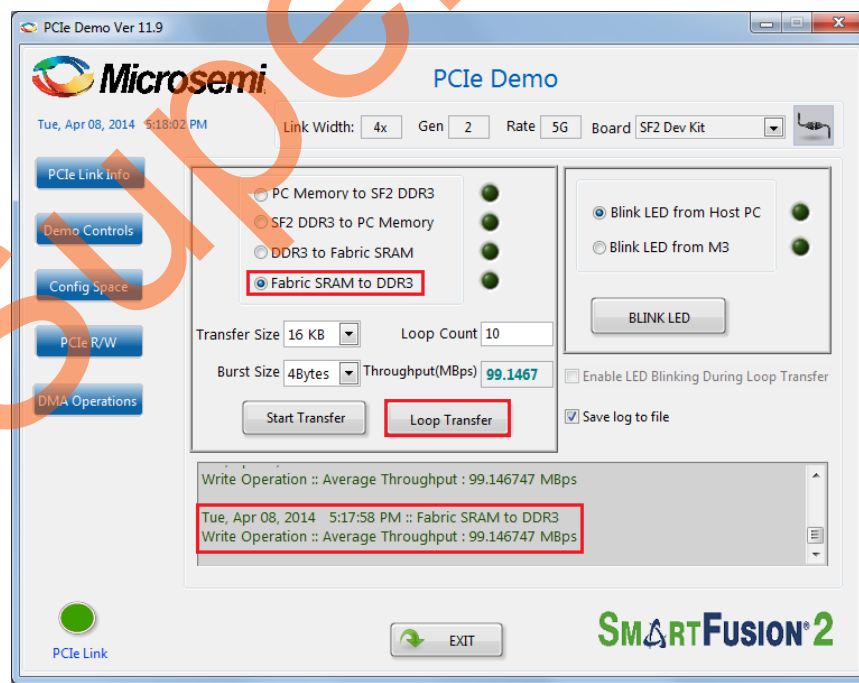

Figure 22 • Fabric SRAM to DDR3 Transfer Throughput
11. Select the type of DMA transfer as **Fabric SRAM to DDR3**, select any **Transfer Size** and click **Loop Transfer** as shown in Figure 22.